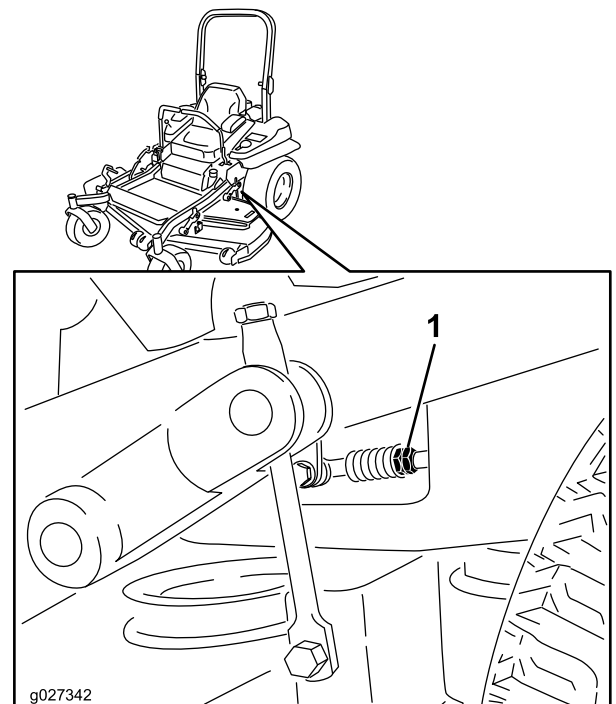

Figure 78
8. Adjust the pump-control rod lengths by rotating the double nuts on the rod in the appropriate direction until the wheels slightly creep in reverse (Figure 78).